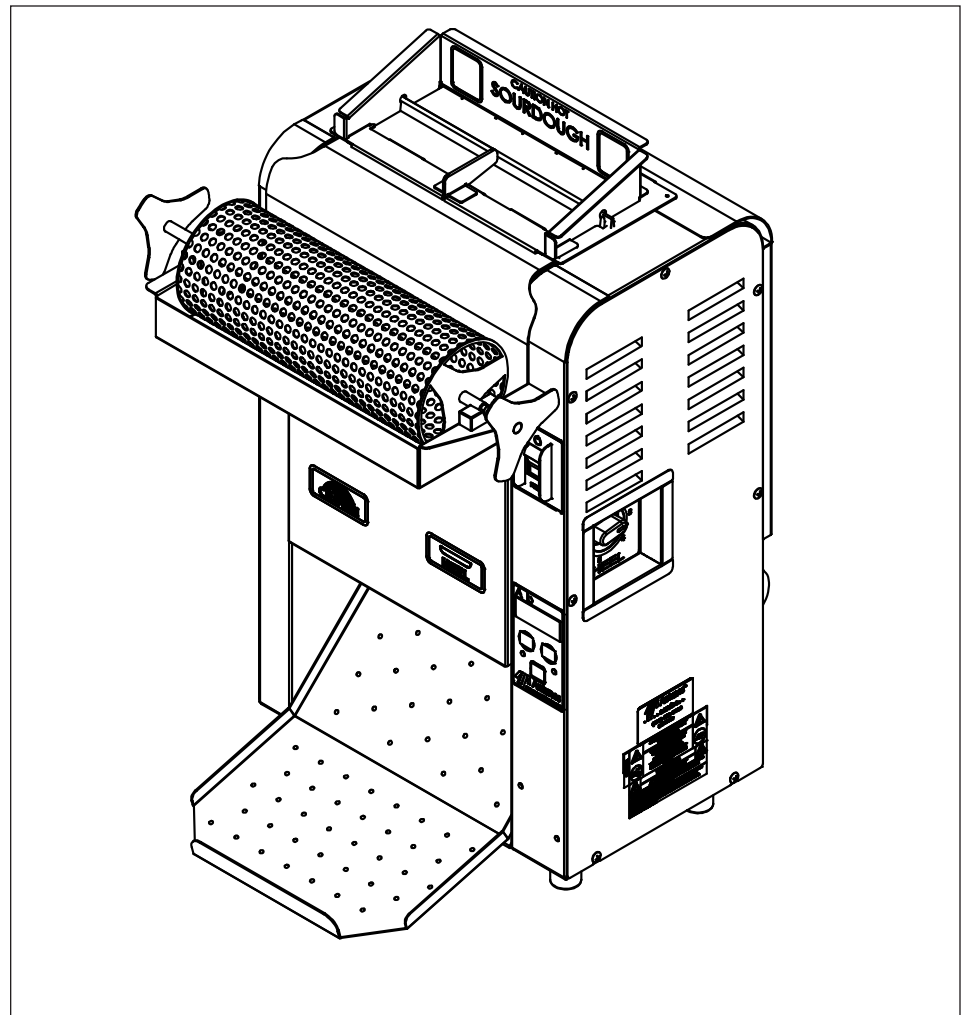

Figure 4. VCTM-2 Toaster
1. Set the Bun Thickness Adjustment Controls (Figure 4).
NOTE: The display (Figure 4) flashes "LO" during warm-up. "USE" appears when the toaster is ready for use.
5. Toasted buns drop onto the Bun Chute (Figure 4).
A Hi-Limit Control turns off power to the unit if it overheats. To reset the control, allow the unit to cool, then locate the Reset Button at the rear of the unit. Remove the black protective cap, press the Reset Button, and reinstall the protective cap (Figure 4).